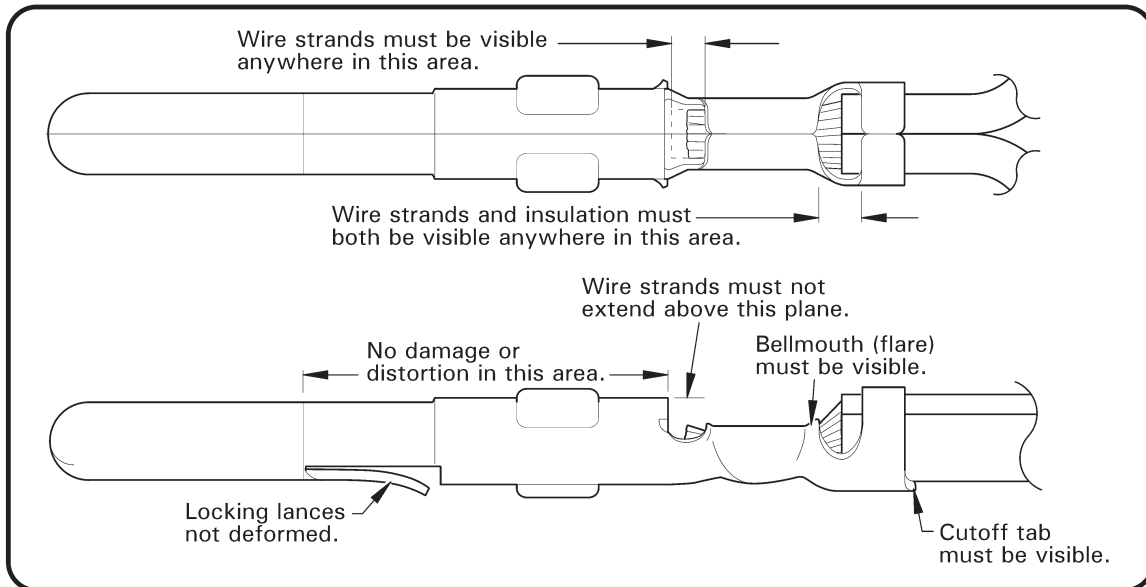

**FIGURE 3**
8. Refer to Figure 3, Detail A. Lay out hole location on C015-4 skin, drill 0.256-inch diameter hole, and deburr. Remove paint or primer on skin interior adjacent to hole to ensure electrical ground when ground cable is attached. Clean up debris.
9. Refer to Figure 3. Install hardware securing two D420-1 and two D420-4 block assemblies to C046-2 (RH) frame assembly, finger tight.
14. Refer to Figure 3. Install hardware and secure A780-61 cable assembly's (-1991) wire to frame with clamps at location shown. Install hardware and secure cable to skin, standard torque bolt per MM Section 1.320, and torque stripe per MM Figure 2-1.